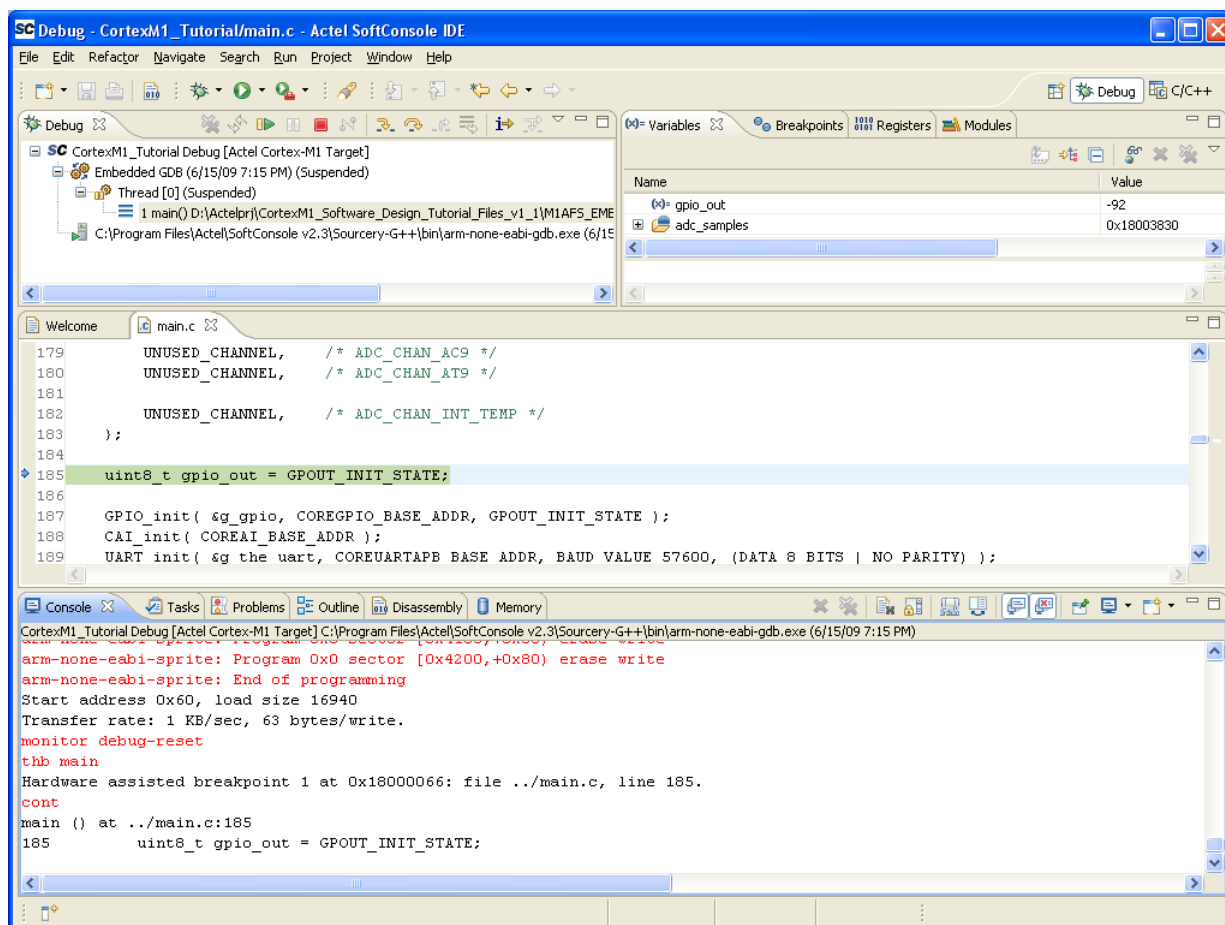

Figure 3-5 • Debug Perspective
- Click **Yes** to switch from the C/C++ perspective to the Debug perspective. SoftConsole switches to the Debug perspective and you should see something similar to Figure 3-5.